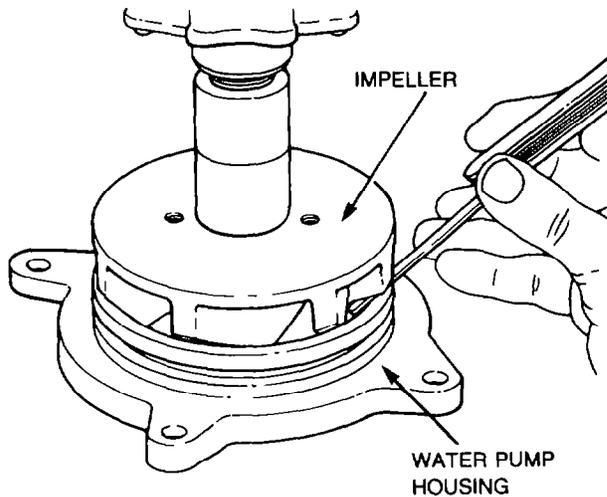

Figure 69 — Measuring Impeller Clearance
- k. Apply a thin coat of Loctite 601 in the impeller bore, then press the impeller onto the shaft ensuring that a clearance of between 0.51-1.02 mm (0.020 - 0.040 in.) is maintained between the impeller vanes and the housing (see Fig. 69).